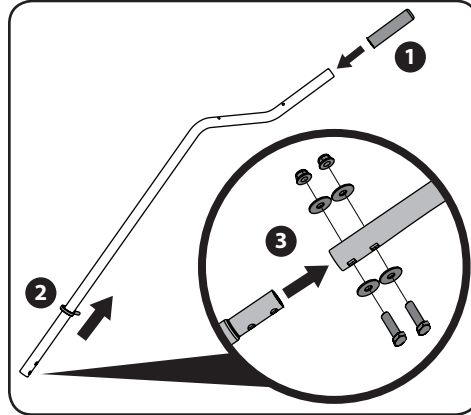

Figure 2-14
1. Slide grip (720-0274) onto the end of the control tube (749-05855) (1). Slide eye bolt (603-0297) from hardware pack 3 (689-00679) onto control tube (749-05855)(2). See Figure 2-14.
2. Slide control tube (749-05855) into lower control tube (749-05858) and fasten with two bolts (710-3180), 4 curved washers (736-0451), and 2 flange lock nuts (712-04063) (3) found in hardware pack 3 (689-00679). See Figure 2-14.